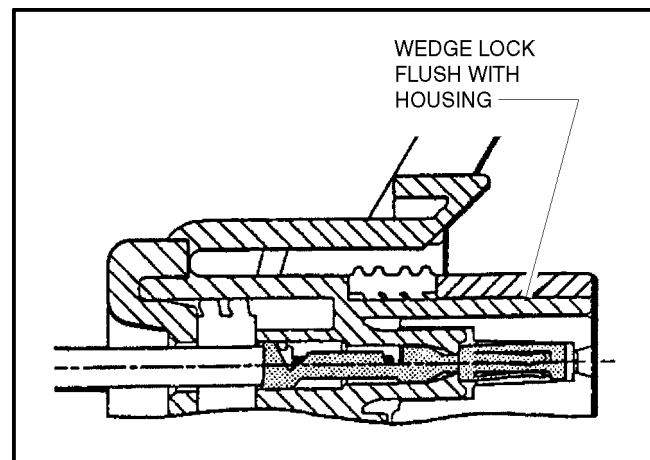

Figure 2-5. Connector Assembly Figure 4
4. Slide the wedge lock into the housing until it is flush with the housing (See Figure 2-5.).